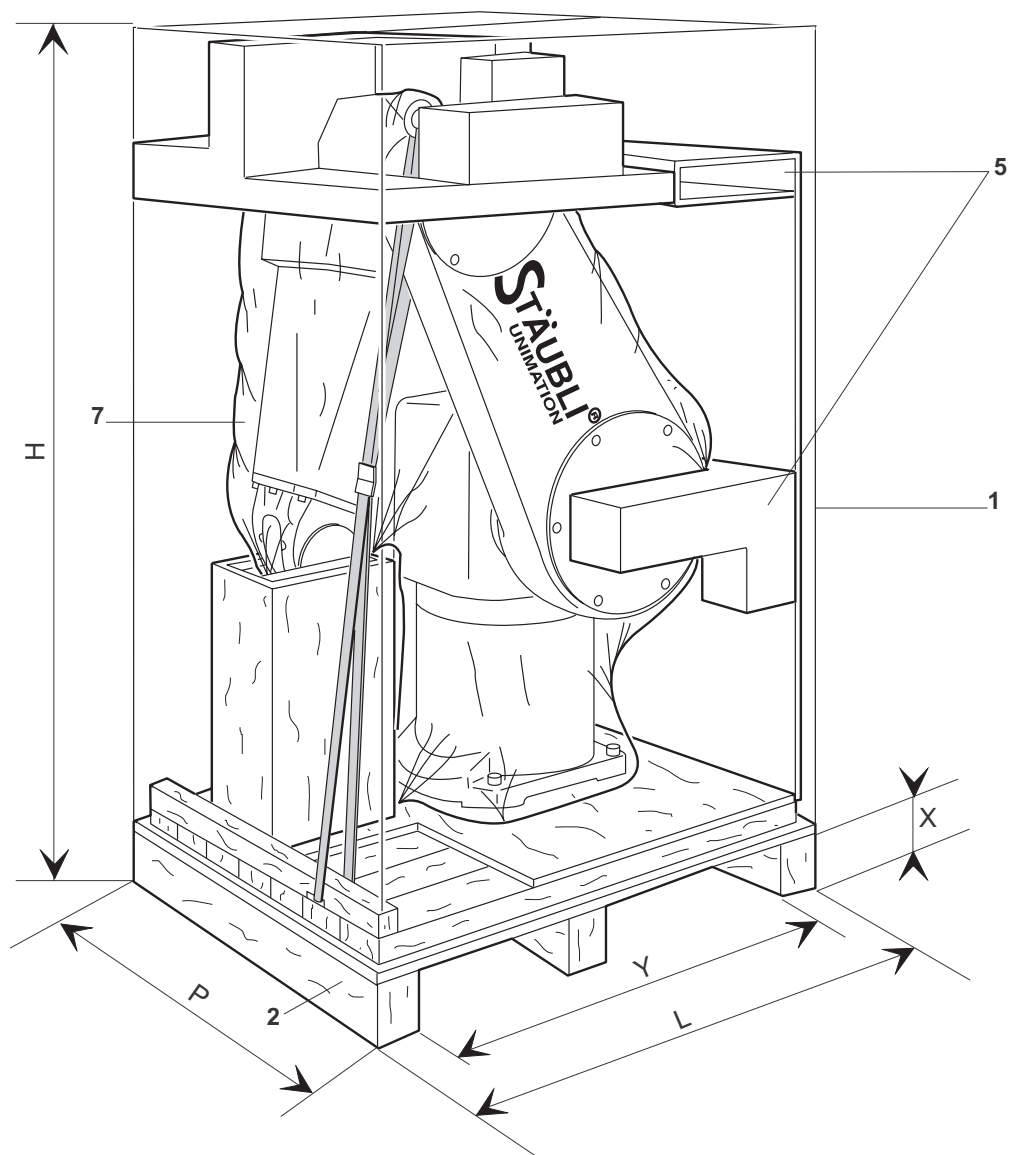

Figure 3.1
3.1. ARM PACKAGING (figure 3.1)
3.2. HANDLING OF PACKING (figure 3.1)
- Remove the cardboard packaging (1), remove the packing material (5) and the plastic cover (7) (figure 3.1).